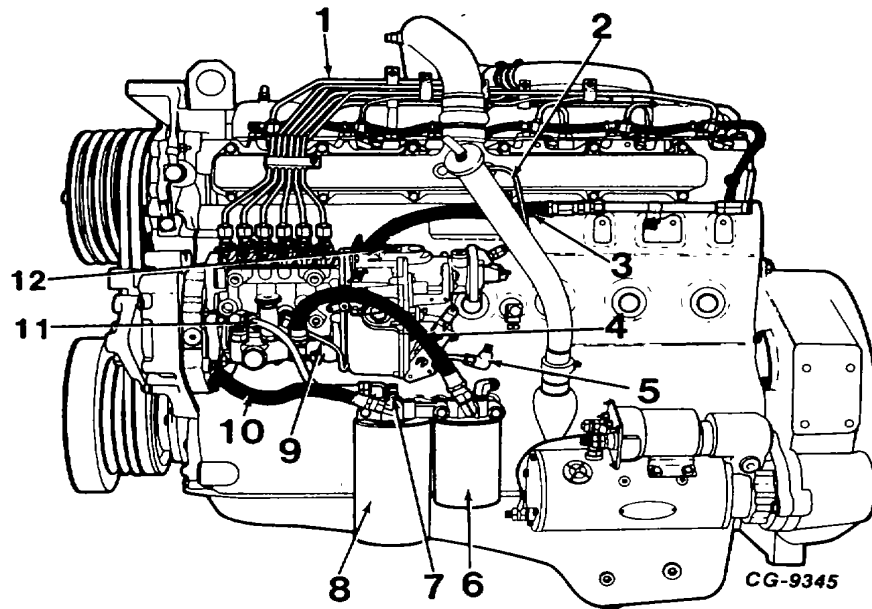

Figure 18. - DT-466C (Side View)
- Remove high pressure injection pipes as an assembly of six lines (Figure 18) from injection nozzles and pump (Figure 20). Cap all openings to keep dirt out of fuel system.